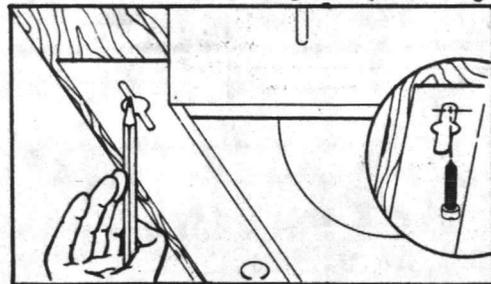

Figure 2
2. **Trace Keyhole Slots** - Hold unit against joists and trace keyhole slots in mounting brackets onto joists. Start screws provided in same end of all traced keyhole openings. Leave about 3/8" of screws projecting from joists. (Fig. 2)